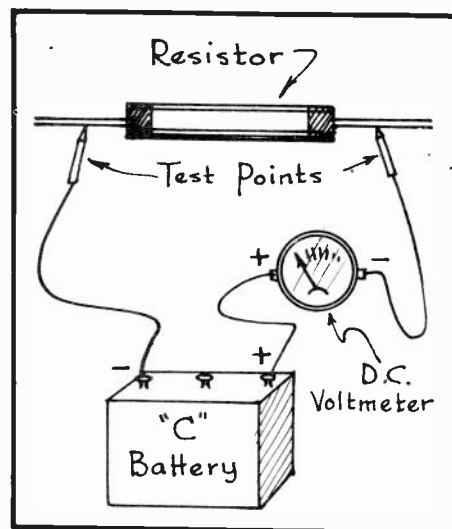

Fig. 3
1. - RESISTORS WHOSE NORMAL RESISTANCE VALUE IS NOT TOO HIGH CAN BE CHECKED FOR CONTINUITY AS PER FIG. 3.